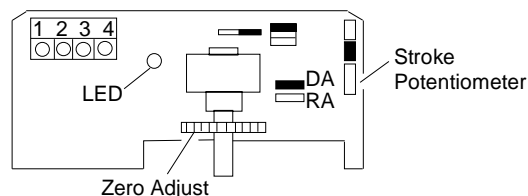

Figure 17: VA-7152 Adjustments
- To ensure that the valve stem is in the full up position, turn the zero adjust knob (shown in Figure 17) completely to the left, until the valve stem reaches the end of stroke.
- To ensure that the valve stem is in the full down position, adjust the stroke potentiometer fully Clockwise (CW) until the valve stem reaches the end of stroke.